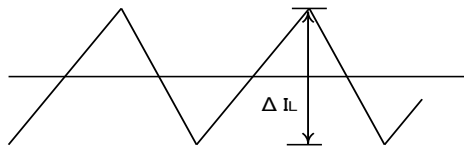

Figure 24. Ripple Current
(1) Output Inductor
A shielded inductor that satisfies the current rating (current value, I_{PEAK} as shown in Figure 24 Ripple Current) and has a low DCR (direct current resistance component) is recommended. Inductor values greatly affect the output ripple current. Ripple current can be reduced as the coil (L) value becomes larger and the switching frequency becomes higher as shown in the equations below